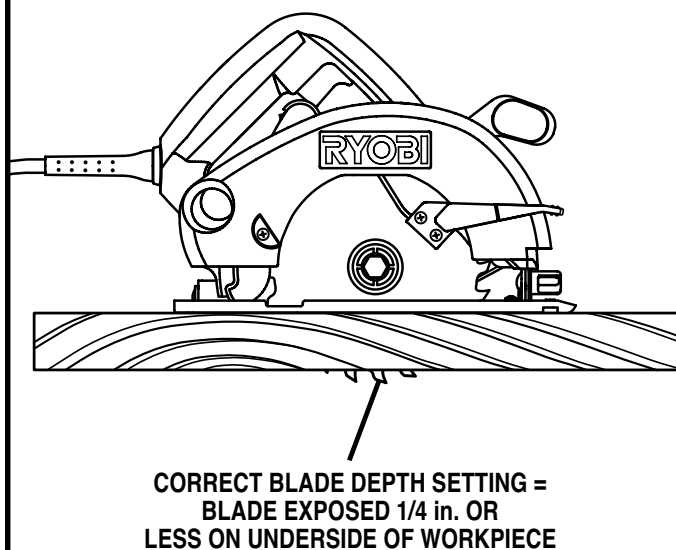

Fig. 6
- Always keep the correct blade depth setting—the correct blade depth setting for all cuts should not exceed 1/4 in. below the material to be cut. See Figure 6.